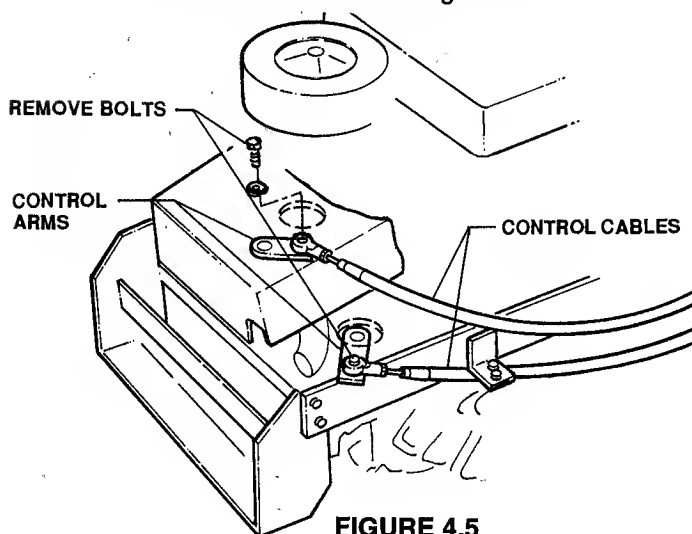

FIGURE 4.5
- E. Remove the bolt from the control arm and the control cable. See Figure 4.5. You can now move the control arms by hand. Move them until all movement ceases. Shut the engine "OFF".